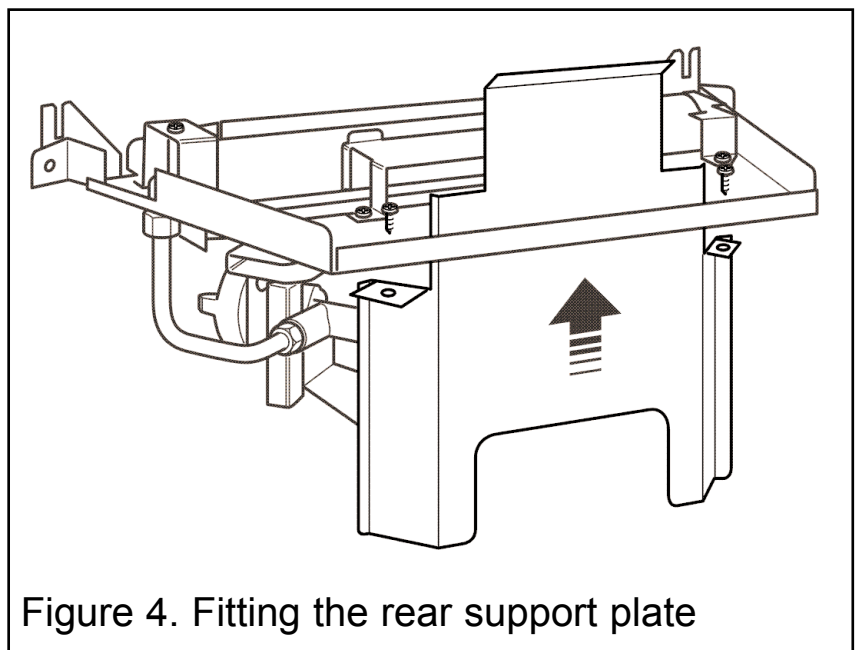

Figure 4. Fitting the rear support plate
7.3.1 Prior to installation of the burner the rear support plate must be fitted (See figure 4). Two self-tapping screws retain the plate.